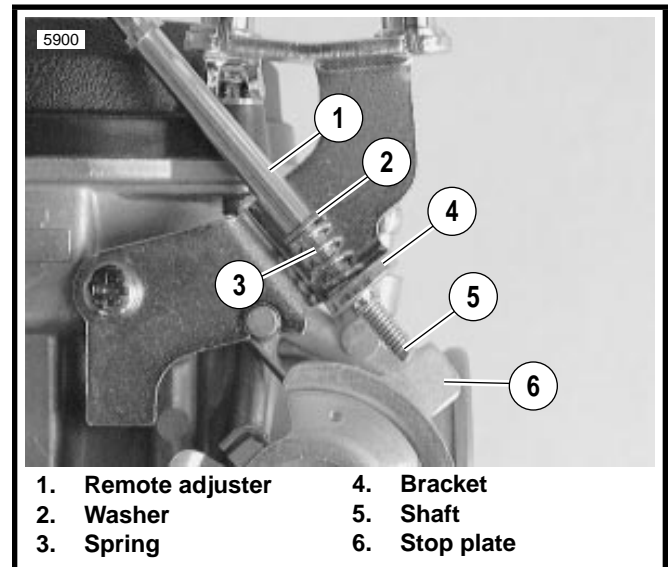

Figure 17. Removal/Installation
3. See Figure 17. Unthread adjuster assembly from bracket (4). Remove spring (3) and washer (2).
1. See Figure 17. Thread remote adjuster (1), spring (3) and washer (2) into bracket (4). Adjuster shaft (5) must touch stop plate (6).